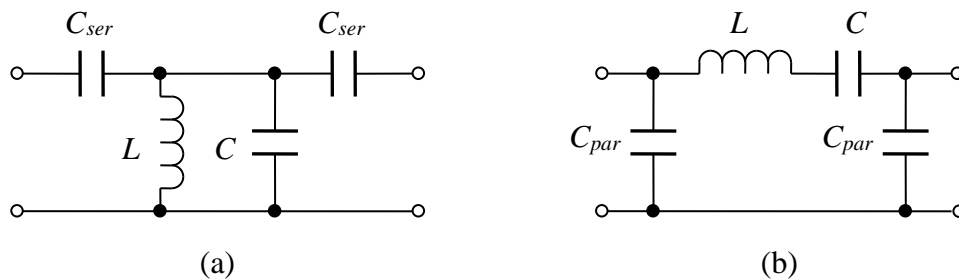

Figure 1. Coupled-resonator band-pass filters based on (a) a parallel LC circuit, and (b) a series LC circuit.
Two types of band-pass filters, known as coupled-resonator filters, are shown in Figure 1. The capacitors placed next to the input and output ports of the filters are known as coupling capacitors, and their purpose is to combine with the source and load resistances (not shown; assumed to be real) to decrease the loading on the filter, which in turn increases the network Q and therefore reduces the bandwidth. A practical filter accomplishes this task using L and C values that are neither unreasonably large nor unreasonably small for the fabrication technology being used. Details on designing coupled-resonator filters can be found in the supplemental readings available at the course Moodle site.
- Design a coupled resonator filter for a $50\ \Omega$ system with cut-off frequencies of roughly 115 MHz and 140 MHz. This encompasses the aircraft communication band, which spans 118–137 MHz. Choose the topology in Figure 1 that uses reasonable component values in the